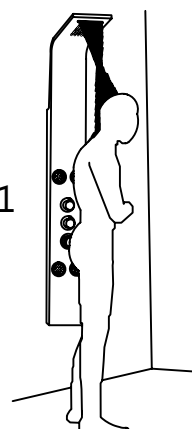

Figure 11
2. Waterfall shower. (Figure 11)